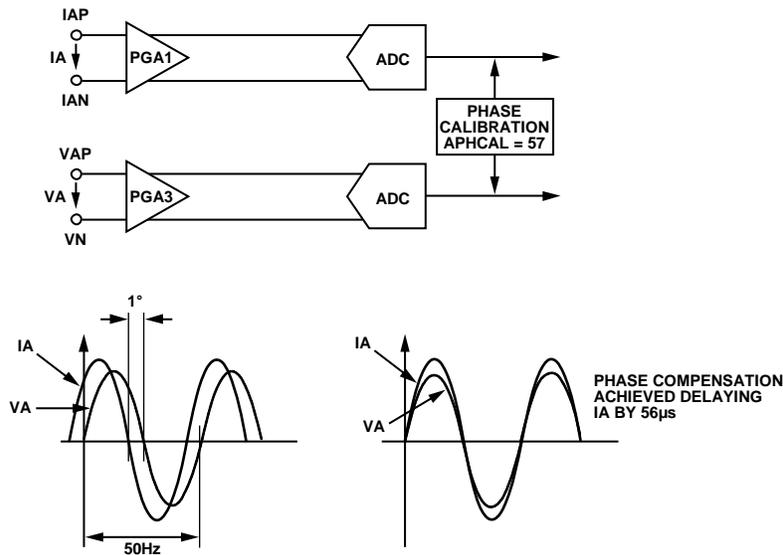

Figure 53. Phase Calibration on Voltage Channels
Figure 53 illustrates how the phase compensation is used to remove x = -1° phase lead in IA of the current channel from the external current transducer (equivalent of 55.5 μs for 50 Hz systems). To cancel the lead (1°) in the current channel of Phase A, a phase lead must be introduced into the corresponding voltage channel. Using Equation (17), APHCAL is 57 least significant bits, rounded up from 56.8. The phase lead is achieved by introducing a time delay of 55.73 μs into the Phase A current.